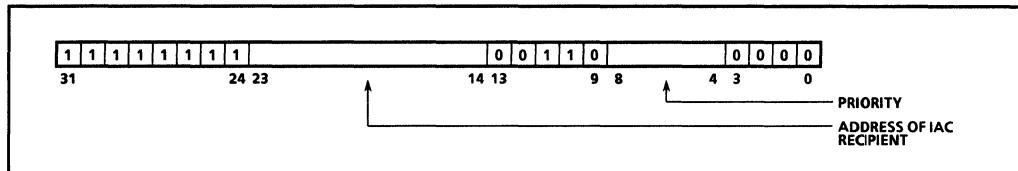

Figure 13-2: Encoding of Address for Processor Receiving an IAC
Sending an external IAC message is similar to sending an internal IAC message, except that the address of the receiving agent is specified in a slightly different way. Figure 13-2 shows the required encoding of the address for the receiving agent.
At initialization each agent on the bus is assigned a unique address in the range of $FF000C00_{16}$ to $FFFFCC00_{16}$. To send an IAC to an agent, the sending agent sends the message to the address assigned to the receiving agent. As shown in Figure 13-2, only bits 14 through 23 of this address are interpreted to determine the address of the receiving agent. Bits 4 through 8 of this address are used to encode the priority of the message.
2. Execute a **synmovq** instruction to move the message from its source address to the address of the receiving agent (encoded in the form shown in Figure 13-2).